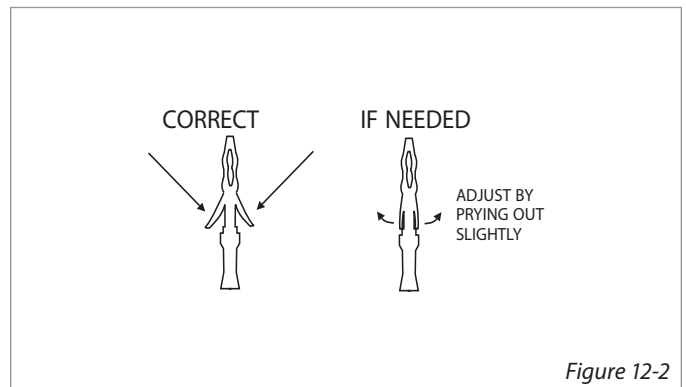

Figure 12-2
5. **Inspect the pin's retaining flanges.** The flanges may have been deformed while being run through the vehicle. These are critical to secure the pins inside the connector. Adjust as needed. [Figure 12-2]